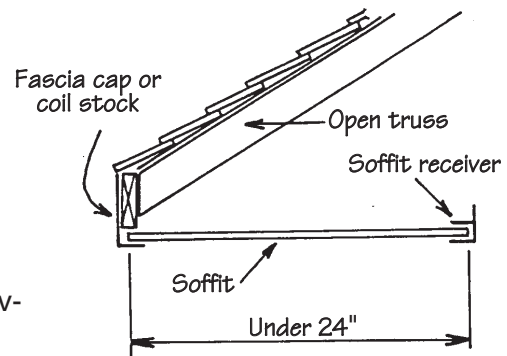

Figure 61.
- Examine the illustrations at right and find one that most closely resembles the construction methods used on this particular project (Fig. 61 through 64).